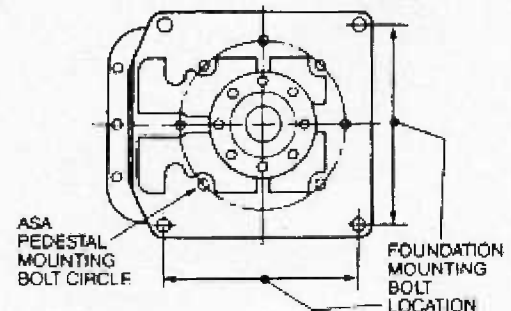

Figure 3 — Mounting features
**MOUNTING OPTIONS:** HGD models including those fitted for stub-shaft connection, may be rail, pedestal or tank flanged mounted. The mounting-bolt foot-print in the housing base is square to permit 90° variations in positioning; the underside of the base has also been drilled and tapped for mounting to a standard ASA flange\* (see Fig. 3).
- While operating, there's random fluid motion in the vessel that exerts great forces on the extension shaft of the mixer. The mixer accommodates these forces since they are transmitted directly to the support mountings. Therefore, the mounting system must be rigid. It must support dead mixer weight as well as live mixer reactions that result from Torque and Bending Moment (see Figure 3). It is not enough to design the support system for acceptable levels of stress. It must be rigid enough to take care of start-up torque load and preclude large deflections which may result in mixer vibration.